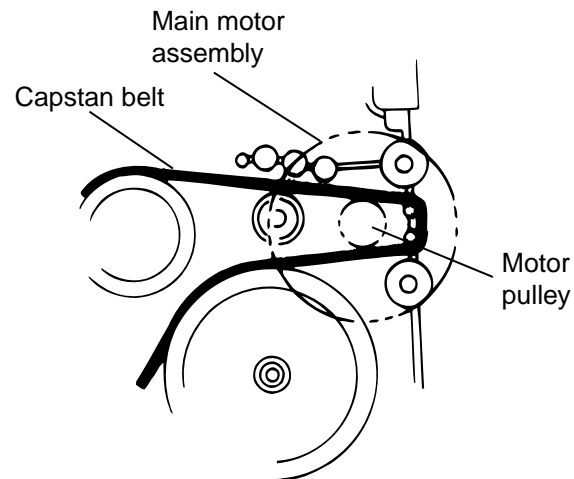

Fig. 4a
2. While raising the main motor, remove the capstan belt from the motor pulley (See Fig. 4a).